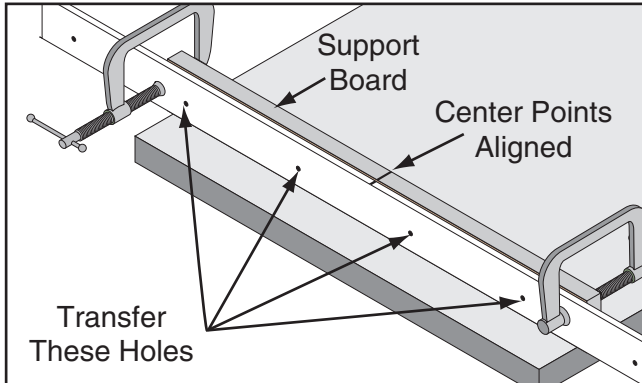

Figure 18. Fence and board lined up and clamped to transfer screw hole positions.
- Use the table saw fence face as a template to transfer the screw hole positions onto your fence board (**Figure 18**). Use a center punch or long nail to mark the holes.